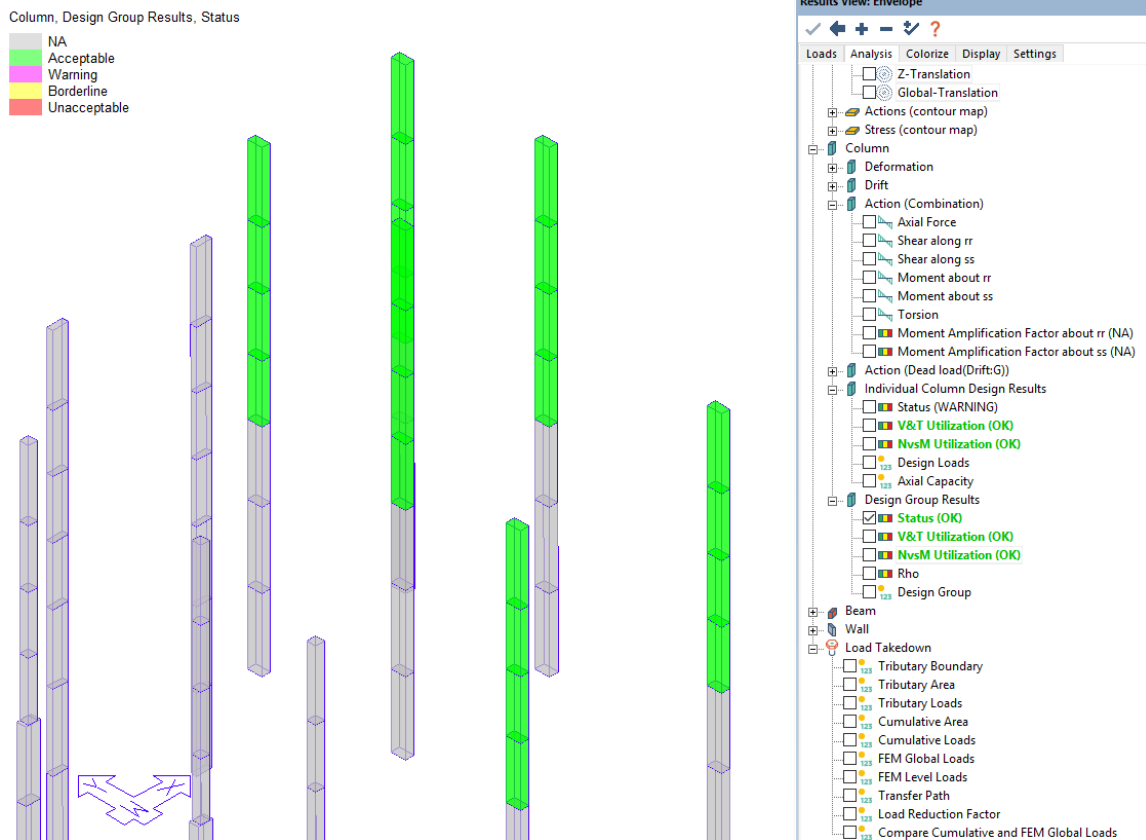

Figure 16-13
- After the design process is completed, from the *Results Browser Analysis* tab select the *Column – Design Group Results* options for *Status* and *NvM Utilization*. Note both must be viewed separately. **FIGURE 16-13** shows the